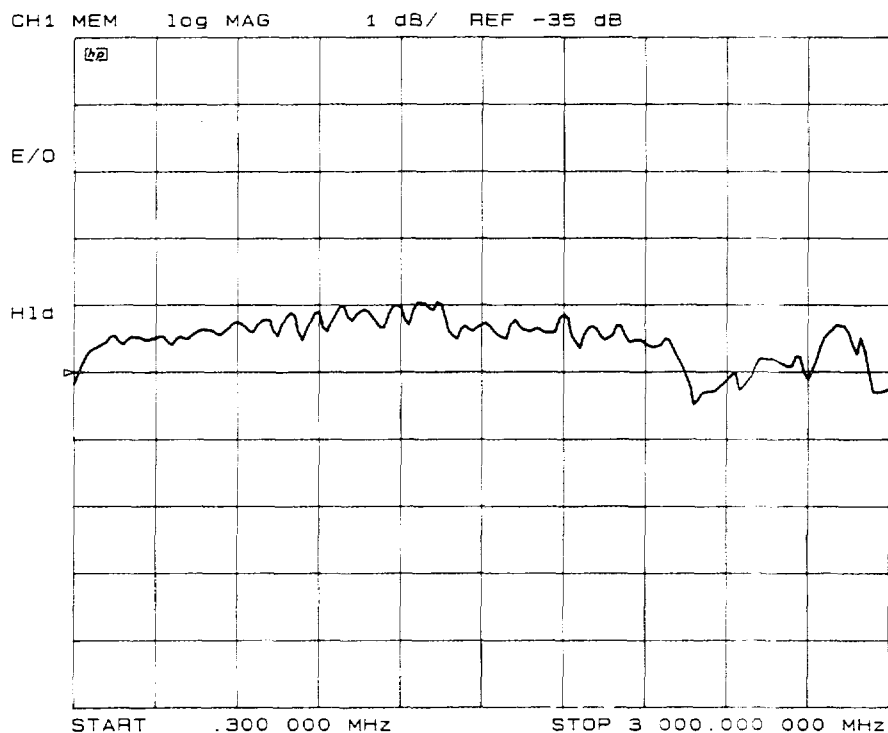

Figure 5. Typical MOD FREQ RESP PLOT
- MODULATION FREQUENCY RESPONSE, conditions: 1 - 5. See Figure 5.